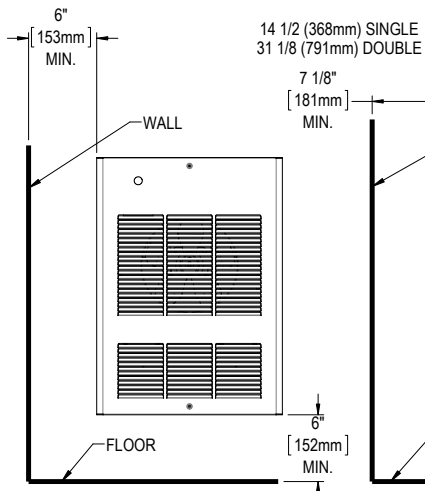

Figure 2: Opening
4. For surface installation, put a wooden plate at the back of the gypsum in order to fix the unit to the wall securely. For the wooden plate dimensions, refer to the opening for the recessed application (see figures 2 and 3).
1. The opening in the wall must be made in accordance with acceptable standards (see figures 2 and 3, and Warnings).